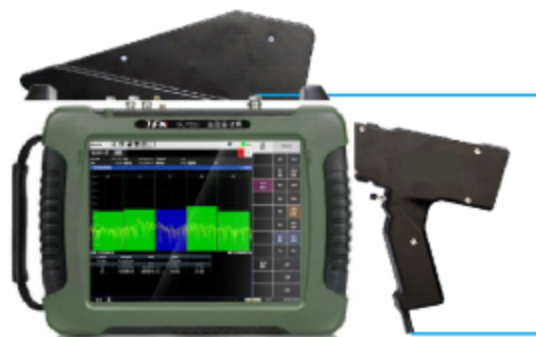

Figure 7.9 Schematic diagram of handheld DF antenna and RMT series spectrometer
Step 1. Connect the handheld DF antenna to the RMT spectrum RF input port, connect the GPS antenna and test as shown in Figure 7.9: